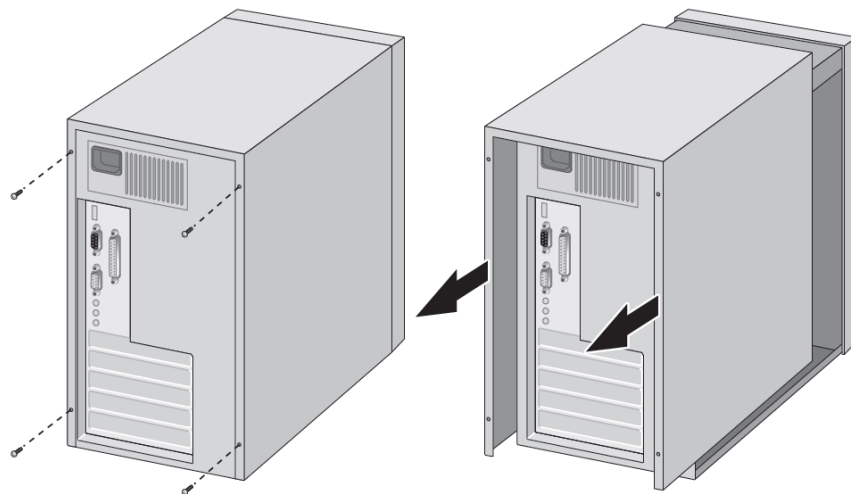

Figure 3. Removing the PC Cover
2. Remove the system cover. See Figure 3.